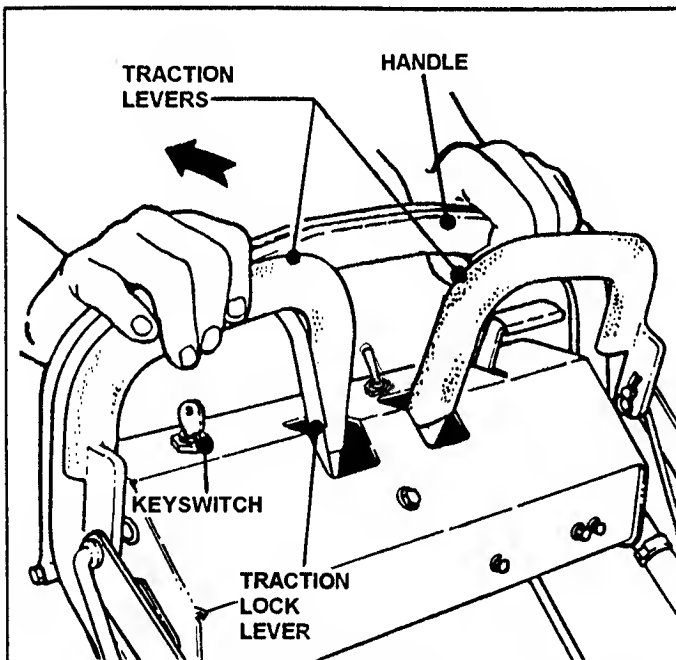

FIGURE 2
1. Squeeze both Traction Levers firmly against the Handle to stop forward or reverse motion. Using your right hand thumb, push the Traction Lock Lever full forward into Park Brake position. See Figure 2.
2. Pull Blade Clutch Switch backward (toward handle) to the OFF position. See Figure 2.
4. **STOP ENGINE** by turning Key switch to OFF. See Figure 2.
1. Pull both **TRACTION LEVERS** toward the Handle to stop forward or reverse motion, while pushing the Traction Lock Lever full forward until it locks both Traction Levers in Park Brake position. See Figure 2
2. Pull the Blade Clutch Switch backward to the **OFF** position. See Figure 2.
- 2a. Pull both Traction Levers toward the Handle while pushing Traction Lock Levers forward until it locks the Traction Lock Lever in Park Brake Position. Refer to Figure 2.